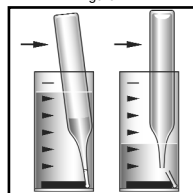

Figure 3
3. Place the Vacu-vial ampoule in the sample cup. Snap the tip by pressing the ampoule against the side of the cup. The ampoule will fill leaving a small bubble to facilitate mixing (fig 3).